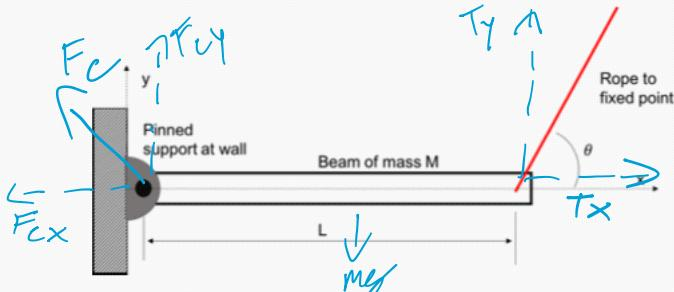

Figure 5.1: A pinned beam supported by a rope.
Consider the *pinned beam* with constant cross section and mass distribution shown in Figure 5.1 below. The beam is supported at one end by a *pinned joint*. This particular type of joint can provide linear support for reaction forces in any direction, but cannot support a turning moment, since it rotates about the pin (if interested, you can learn more about types of load supports here). At the other end of the beam is a rope which can only support tension along its axis, attached to a fixed point. For this exercise, you can assume the beam is stationary ($a = \alpha = 0, v = \dot{\theta} = 0$).
2. When drawing a free body diagram for the pinned beam in Figure 5.1, which body should you isolate? *The beam*
2. When drawing a free body diagram for the pinned beam in Figure 5.1, which body should you isolate? For the pinned beam in Figure 5.1, you want to isolate just the beam portion of the drawing as shown below.